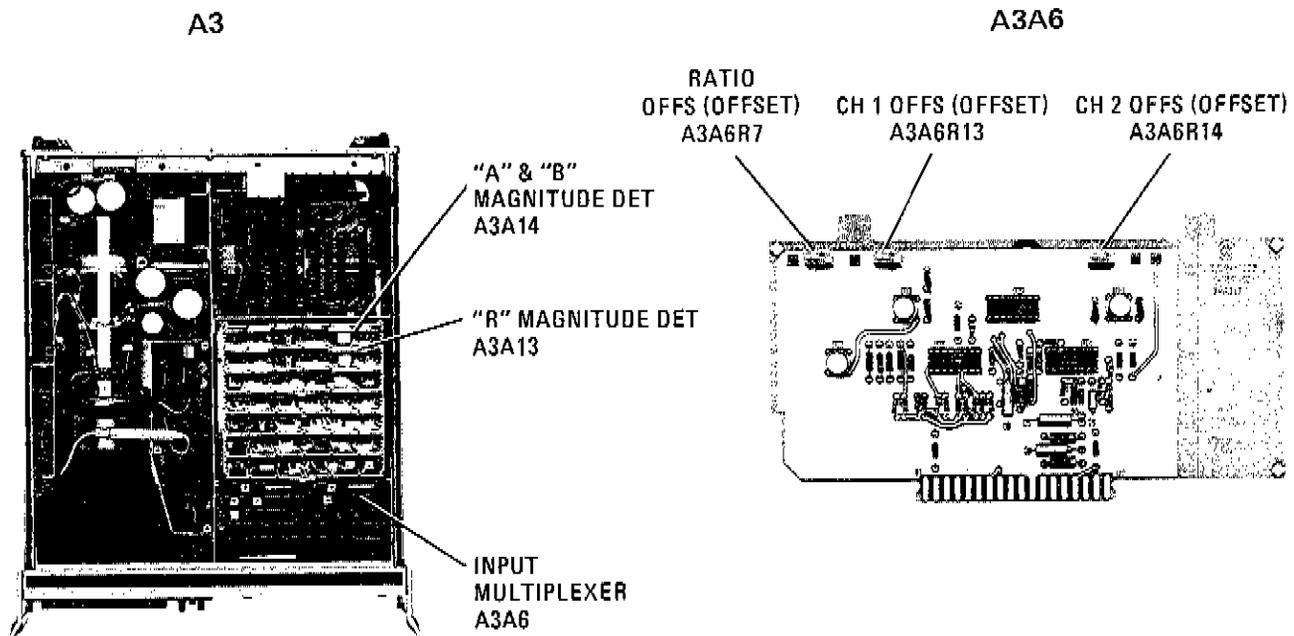

Figure A5-19. A3A6 Adjustment Locations
- d. Connect DVM to A6TP1 and adjust "CH 1 OFFSET" control A3A6R13 (Figure A5-19) for 0.000 Vdc ± 0.001 Vdc.